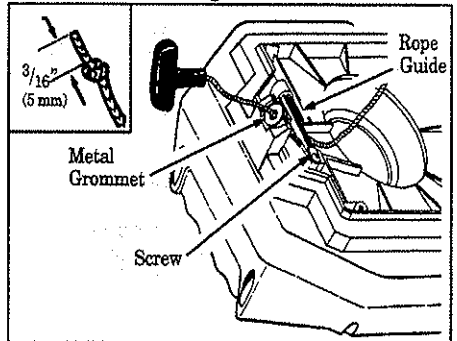

Figure 17
9. Insert one end of the rope through the handle and secure with a knot. Leave $3/16"$ (5 mm) pigtail behind the knot. Figure 17 (Inset).
10. Insert the other end of the rope through the metal grommet, then under the rope guide. Figure 17.